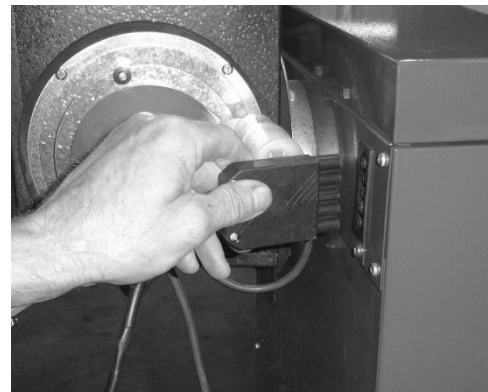

Fig 10.1
Before servicing, set the burner switch to 'Standby' and after the burner has shut down and displays 'WAIT PELLET THERMOSTAT' isolate the electricity supply by disconnecting the mains socket fitted in the rear of the boiler as shown in fig 10.1 below
- II. Check the shaker unit (located under the top front access door) is operating freely and that the spirals are moving up and down with an intermittent sudden vertical motion. (If there is no sudden vertical motion, isolate the power as shown in fig 10.1 and check the condition of the spring located in the rear of the control panel replace if necessary).